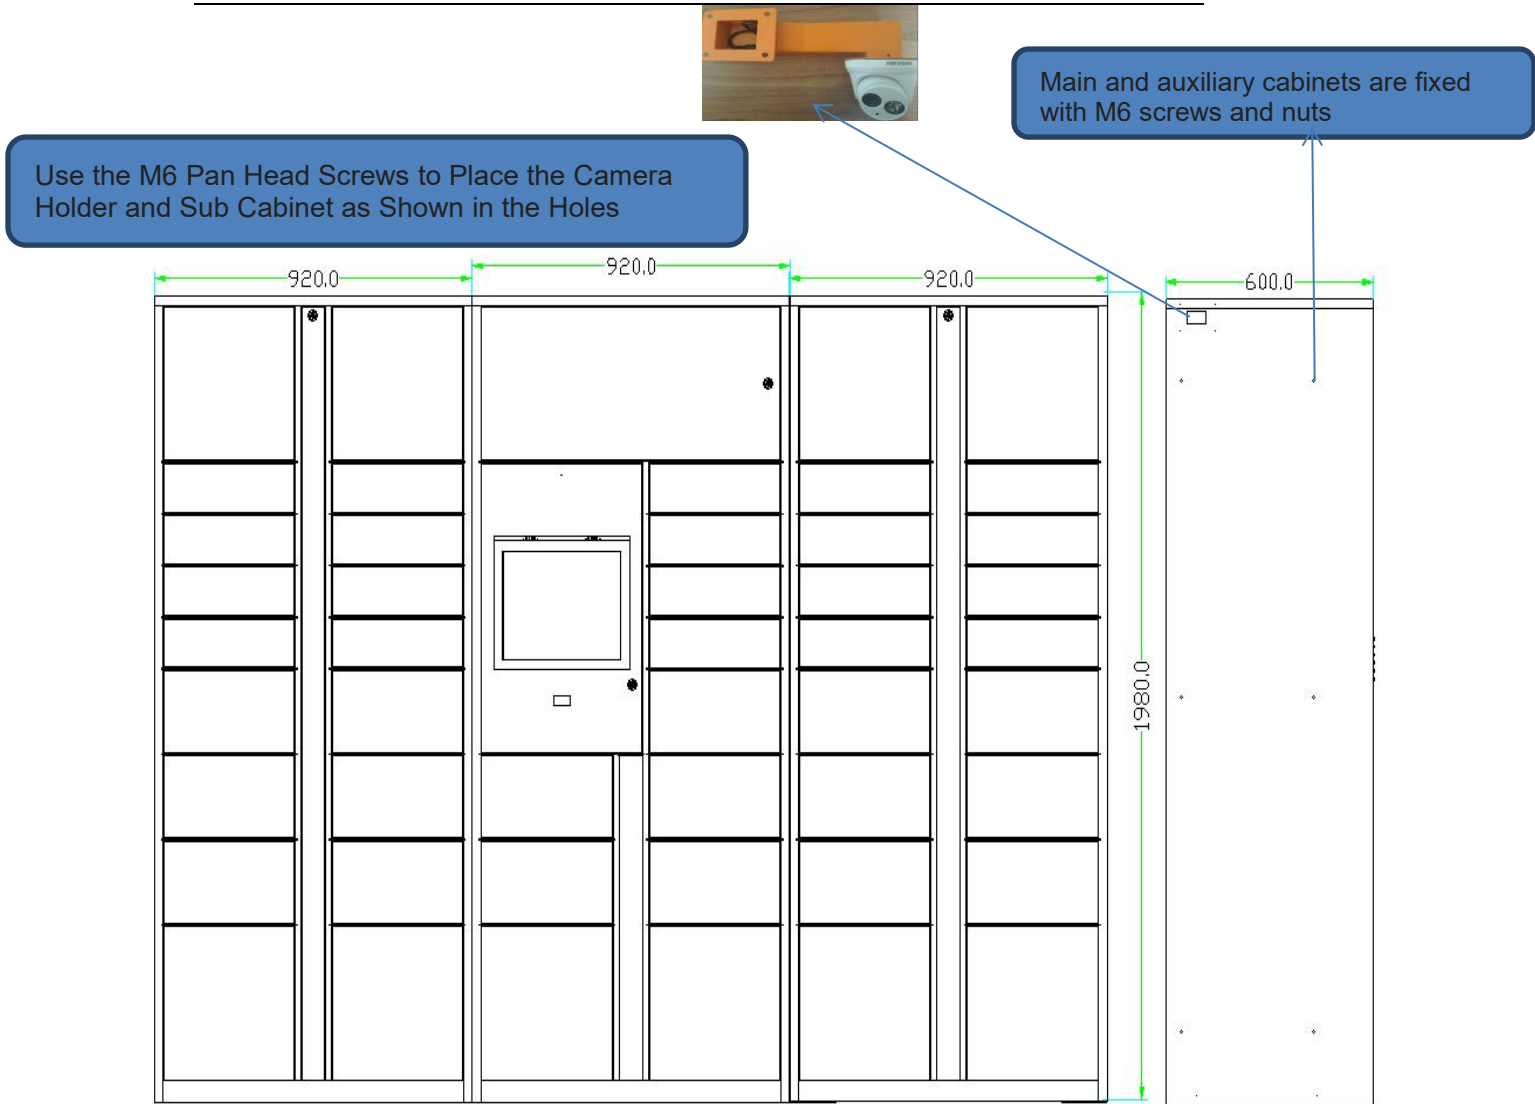

Figure 3
- 5) In the outdoor unit, it is necessary to install a canopy. When the canopy is customized, the rain canopy can be customized according to the size of the express delivery cabinet. The principle ensures that the canopy will not be wetted by the rain in the later period, and it will be damaged by the sun. Note that the canopy is kept at a distance of more than 20cm from the top of the cabinet to facilitate later maintenance. (The dimensions of the canopy can be made with reference to the size of the cabinet in Figure 3, and waterproof measures should be taken.)